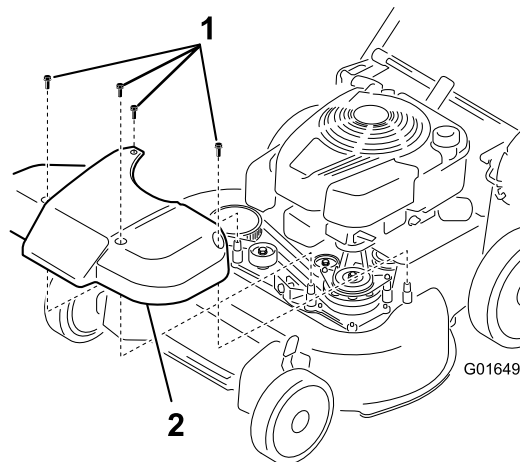

Figure 37
1. Remove the blade-drive system cover (Figure 37).